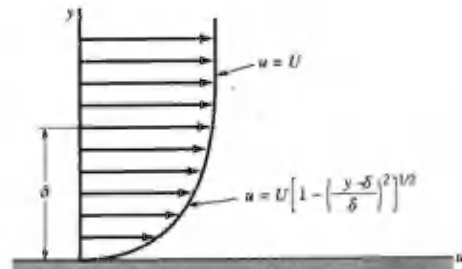

FIGURE P9.7R
9.7R (Momentum integral equation) As is indicated in Table 9.2, the laminar boundary layer results obtained from the momentum integral equation are relatively insensitive to the shape of the assumed velocity profile. Consider the profile given by  $u = U$  for  $y > \delta$ , and  $u = U \left[ 1 - \left( \frac{y - \delta}{\delta} \right)^2 \right]^{1/2}$  for  $y \leq \delta$  as shown in Fig. P9.7R. Note that this satisfies the conditions  $u = 0$  at  $y = 0$  and  $u = U$  at  $y = \delta$ . However, show that such a profile produces meaningless results when used with the momentum integral equation. Explain.